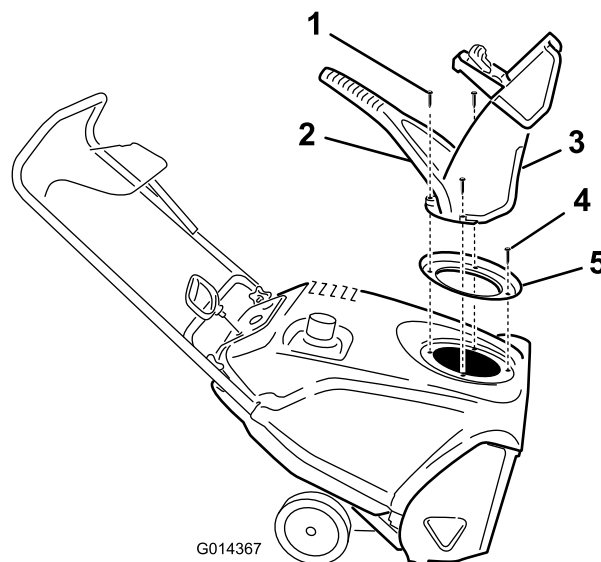

Figure 32
3. Remove the discharge chute, the discharge chute handle, and the chute seal by removing the 3 large screws and one small screw (Figure 32).